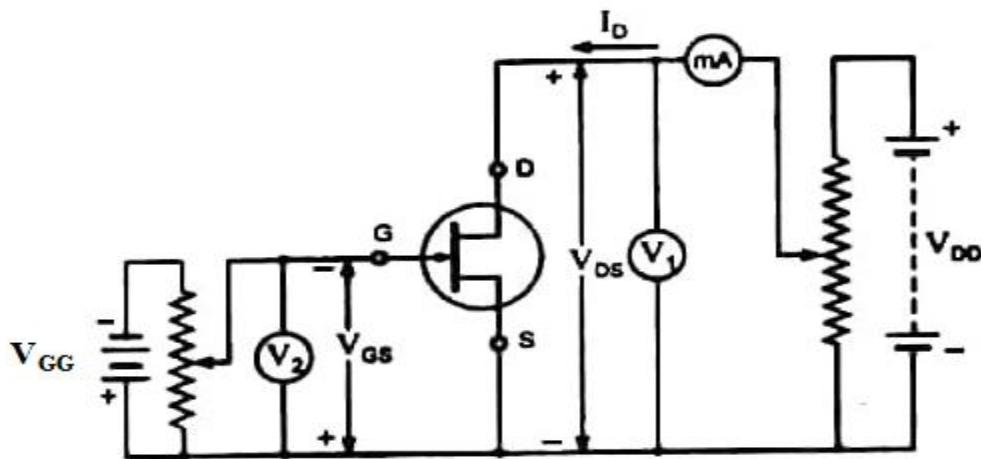

Figure 3.7 Circuit diagram to study characteristics of JFET
Drain and transfer characteristics are the two important characteristics of JFET. Figure 3.7 represents the circuit diagram to obtain these two characteristics by using N-channel JFET connected in the common source mode.
3.4.1 Output or drain characteristics of JFET: It is a curve drawn between drain current (I_D) and drain to source voltage (V_{DS}) for fixed gate source voltage (V_{GS}). The circuit diagram for obtaining the drain or output characteristic of JFET is shown in the Figure 3.7. where V_{GG} is the